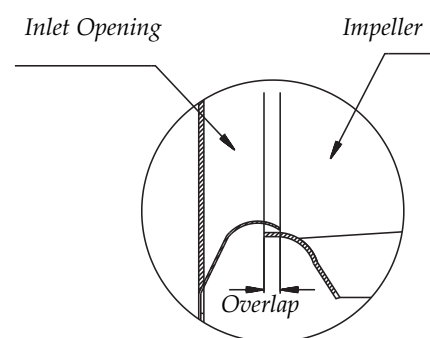

Figure 4. Sketch of overlap
- No/or too much overlap between impeller and inlet cone, see figure 4 and table 6.